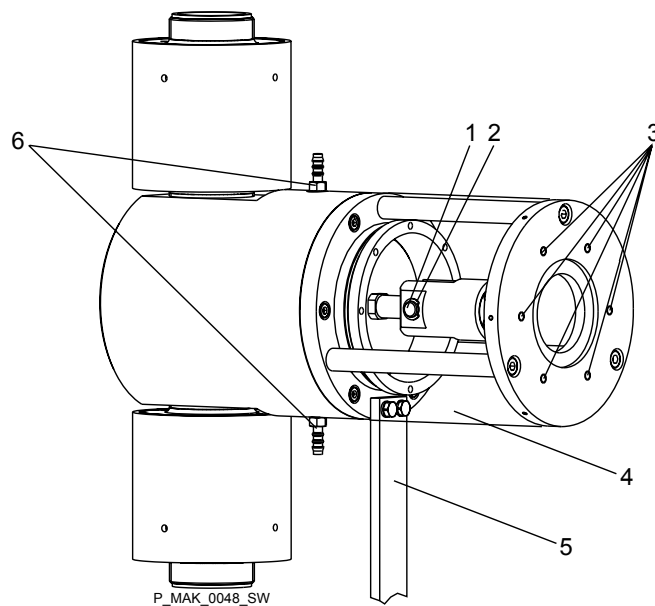

Fig. 17: View of the liquid end
7. ➤ Remove the protective cover (4) from the turret - see Fig. 17.
8. ➤ Remove a safety collar (2) from the bolt at the swivel head and pull out the bolt (1)